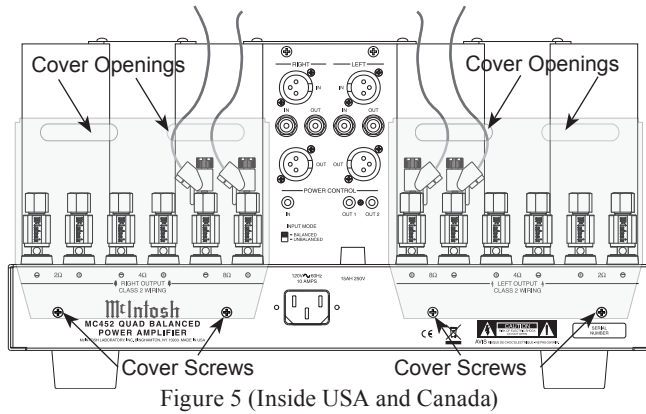

Figure 5 (Inside USA and Canada)
5. Locate the Terminal Connections Covers from the inside of the MC452 shipping carton. Insert the just prepared Loudspeaker hookup cables thru the cover openings, one cover for each channel. Refer to figure 5.
Note: The illustration in figure 5 is connections for 8Ω (ohms) Loudspeakers.
- Attach the Terminal Connections Covers to the MC452 Rear Panel with the previously removed Screws. Refer to figure 5.